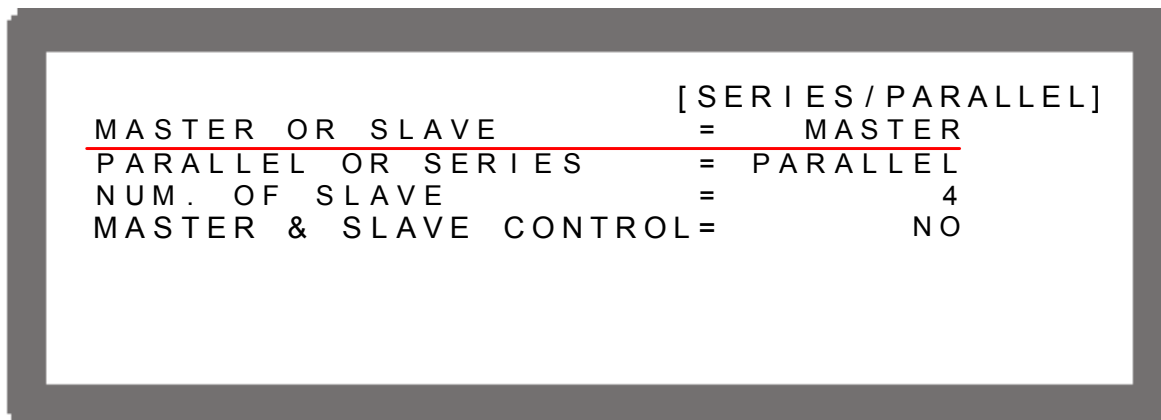

Figure 3-40
2. Use the numeric (**0**) key or “Rotary” () knob to set MASTER as Figure 3-40 shows.